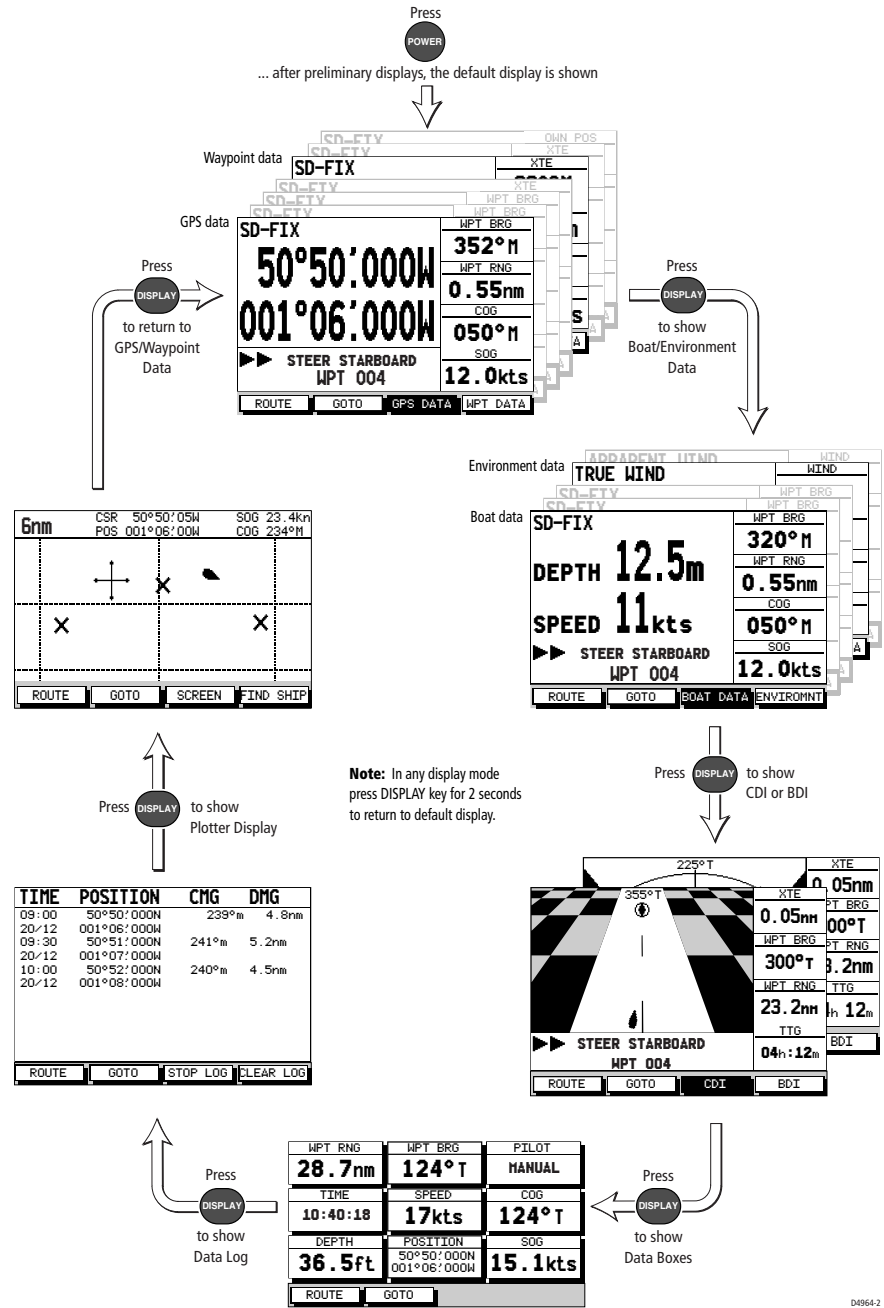

Figure 2-5: Display Modes
- Select the following modes by repeat presses of the **DISPLAY** key (*Figure 2-5*):
The range of pages is listed in *Selecting the Display Mode* on page 2-4 and illustrated in *Figure 2-5*. The complete range of pages is described fully in *Data Display Pages* on page 3-2.